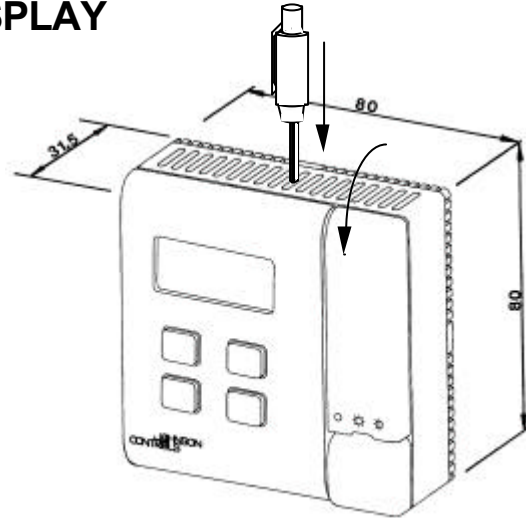

Figure 1: TM-9180-0501
1. Remove the base of the module from the cover by inserting a pointed tool (a special tool, Ordering Code TM-9100-8900, is available from Johnson Controls) into the small hole at the center top of the cover (See Figure 1).